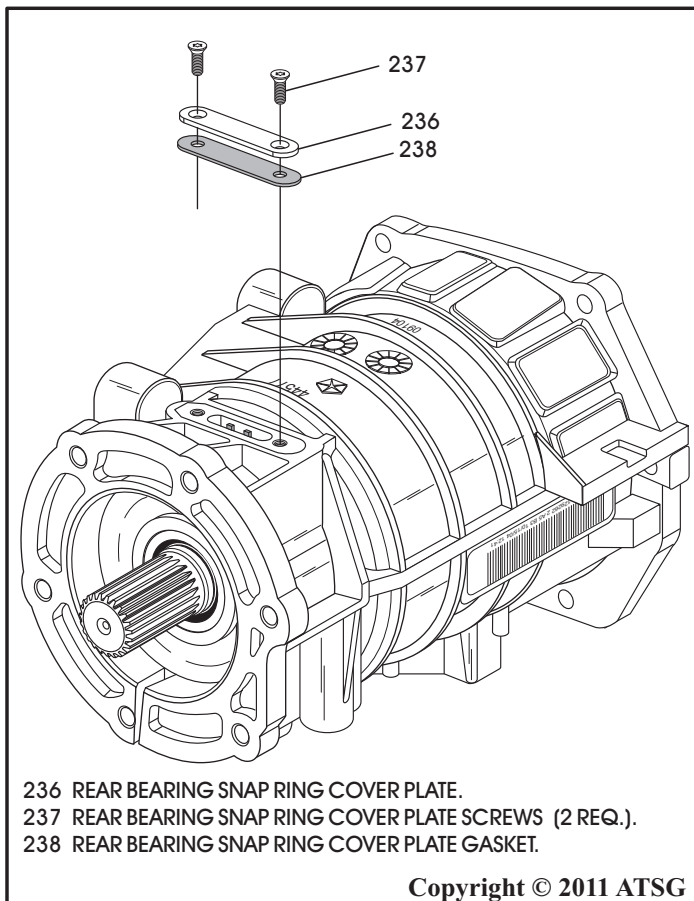

Figure 146
1. Remove the rear bearing snap ring cover plate, as shown in Figure 146.